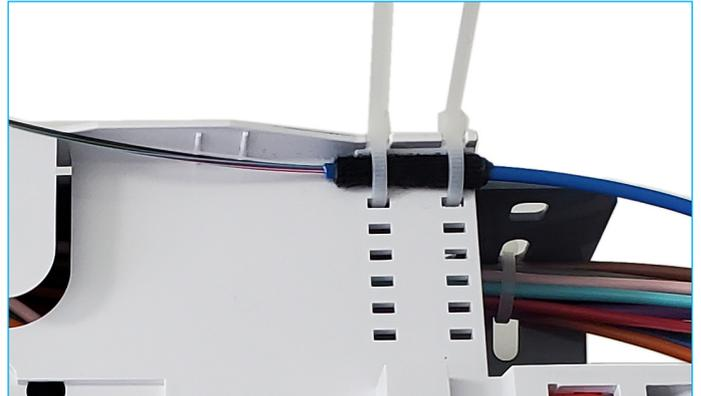

Figure 18
- 9.5 Wrap the end of the tubes with loose buffer tube (LBT) wrap and attach them to the tray with two tie wraps (Figure 18).